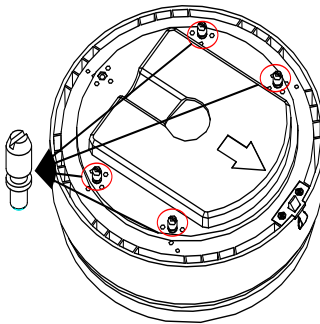

Figure 1-58 Install the bolts
3. Install 4 bolts to the screw holes as shown in Figure 1-58.